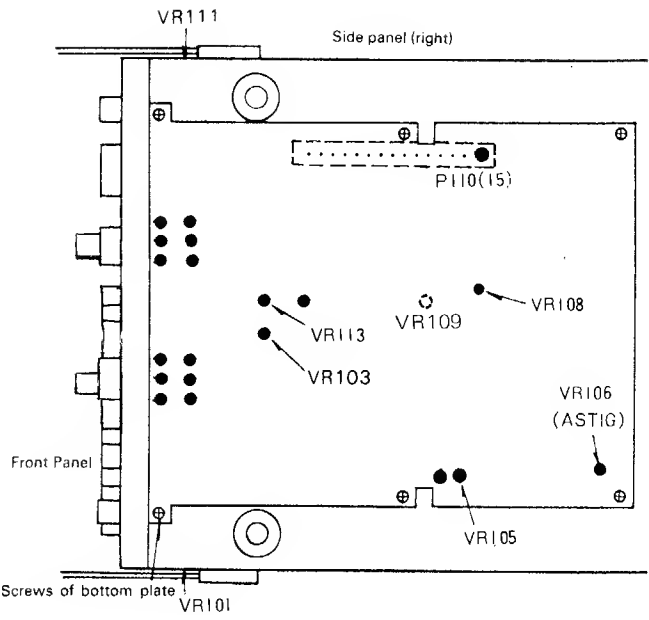

Fig. 39
3. With a bright line displayed, adjust VR105 on the same circuit board so that the bright line comes to the vertical center position. (see Fig. 39)
ASTIG Adjustment (see Fig. 39)
2. Adjust VR109 on the lower circuit board so that 180V appears on the No. 15 pin of the connector P110 on the same circuit board. (see Fig. 39)
2. Adjust VR108 on the lower circuit board through so that bright line disappears at 9 ~ 11 o'clock position of the brightness adjustment knob. (see Fig. 39)
Step ATT DC BAL Adjustment (see Fig. 39):